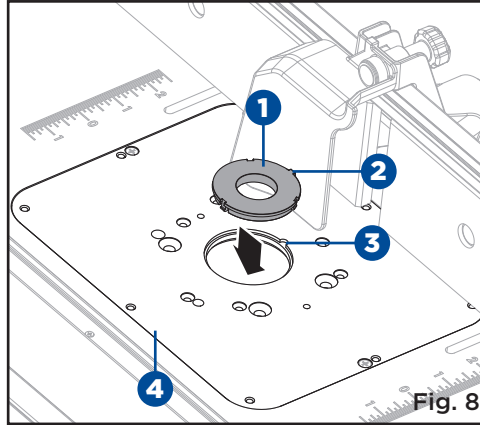

Fig. 8
**INSERTING AND REMOVING THROAT PLATES (Fig. 8)**